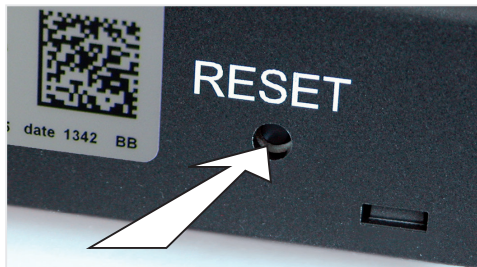

Figure 18: Receiver Reset Button
- Press and hold the receiver's reset button (see figure 18) until you hear two (2) beeps. The first beep is short and the second beep is long. After the second beep, release the reset button.